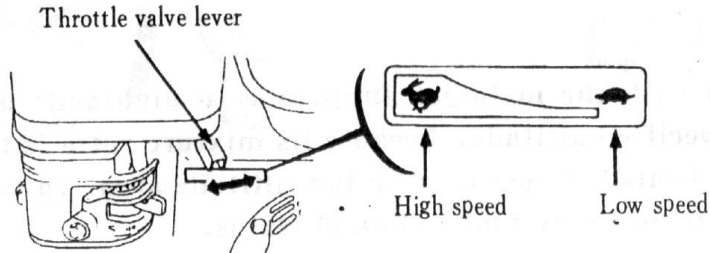

Fig. 18
2. Set the throttle lever in proper position to ensure the engine runs at required velocity. (Fig.18)